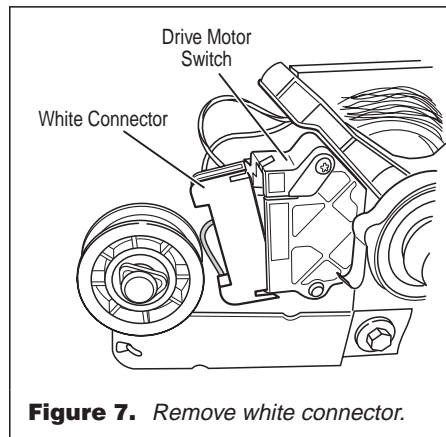

Figure 7. Remove white connector.
4. Remove the white connector from the drive motor switch. See figure 7.